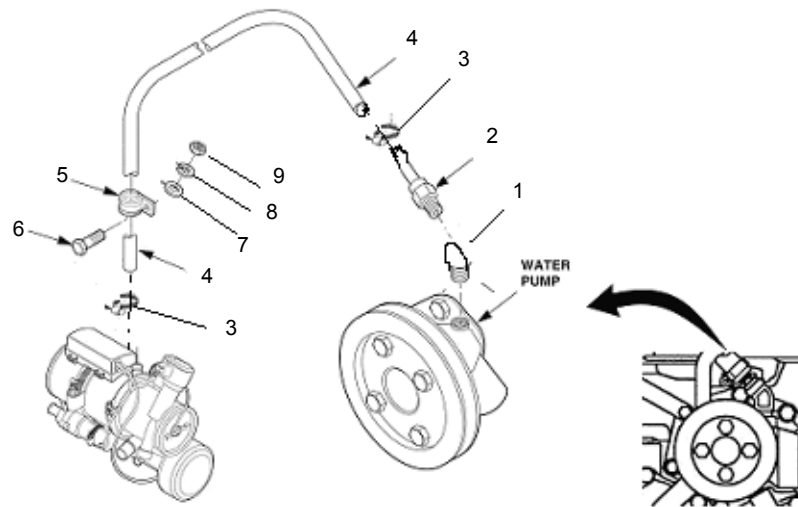

Figure 5-4. Coolant Outlet Hose Assembly
13. Remove plug from water pump, part of engine, and install elbow (1), Figure 5-4, then stand-off (2). Install 90° preformed side of hose (4) to heater coolant return. Route hose (4) along left side panel above door and attach to stand-off (2). Secure with clamp (3). Secure hose (4) to left side panel using clamp (5), screw (6), flatwasher (7), lock washer (8), and nut (9) in hole provided in step 12. If necessary, trim hose (4) to prevent hose from sagging during operation. Secure end of hose (4) to heater with clamp (3).